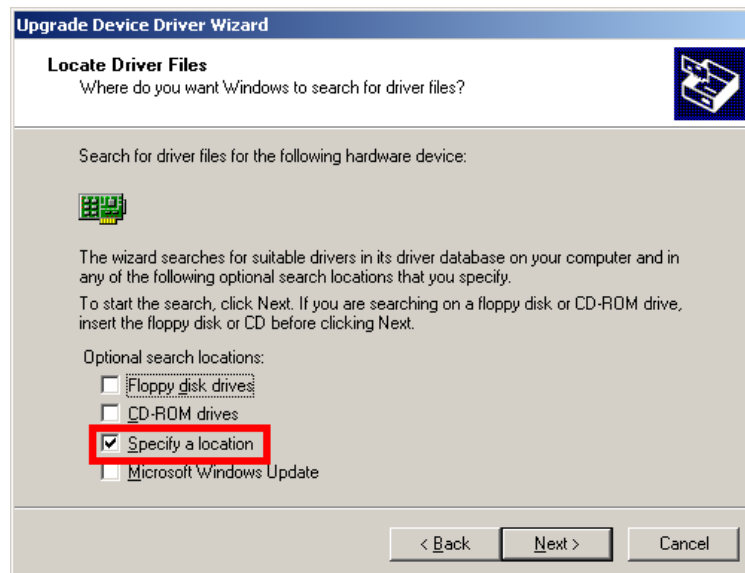

Figure 7-45: Locate Driver Files
Step 7: Select **"Specify a Location"** in the **Locate Driver Files** window (**Figure 7-45**).